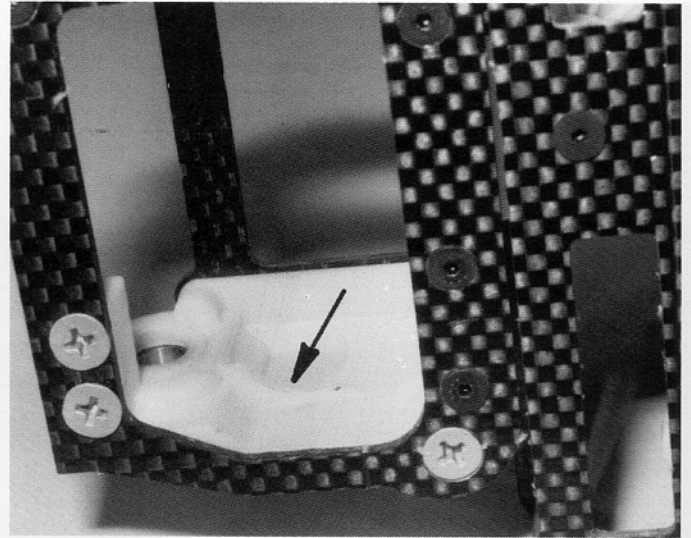
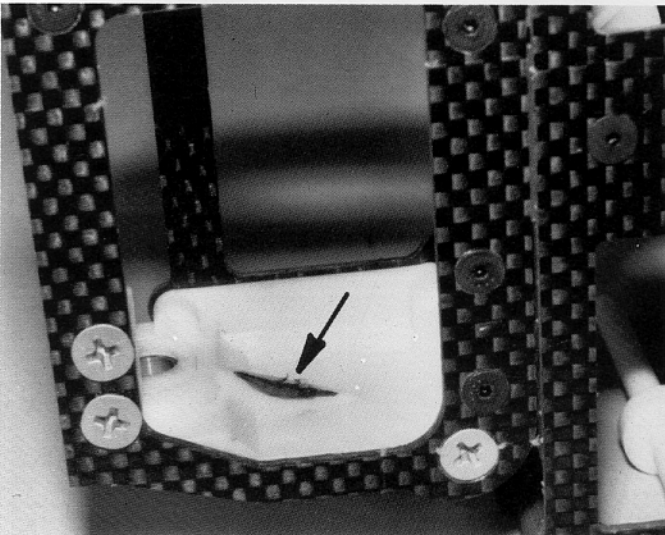

Fig. 51
Fig. 50
□ **Figs. 50 & 51**—We'll need to trim some of the plastic away on the left hand bulkhead where shown in Fig. 50. Use a  knife and trim it approximately 1/8" off, as shown. It should now look like Fig. 51. This will allow us to install the motor much easier.